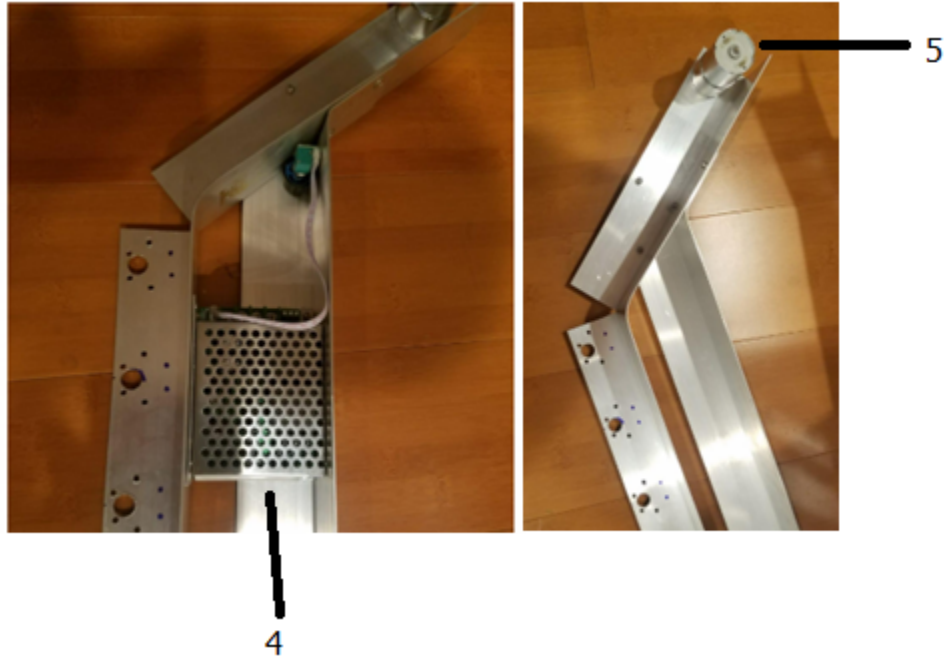

Figure 2: Motor installment
4. Put the speed controllers in between the two motors and hold it with the pin so it will connect through the motor and will control the motion of the motor. Figure 2 (left) is showing the controller fixed in between two bars and the gap between the bars have selected appropriately that the controller will fit between them.
5. Install the motors in the drilled holes like the one showing in figure 2. All the motors will connect in the same format as presented in Figure 2 (right).
9. The main battery has used BMS to connect with each other. It has then packed in shrink wrap. This is 12-V lithium ion and it has made with 18650 cells and this battery output is 12 volts so it will run the motors of 12 volts, and other controllers as well. And the nominal value obtained from the battery is around 10.8 volts in a fully charged 12.6 volts. Figure 2 on right is showing the battery packed with the shrink wrapper and it has an output wire which connects through the charger directly by plug and unplugs the battery. The naked battery has shown in the left with the BMS battery management system to protect the battery from overcharging and over discharging. When the battery will completely charge, it will disconnect the connection between the charger and the battery and when the battery will completely discharge then it will disconnect the battery with